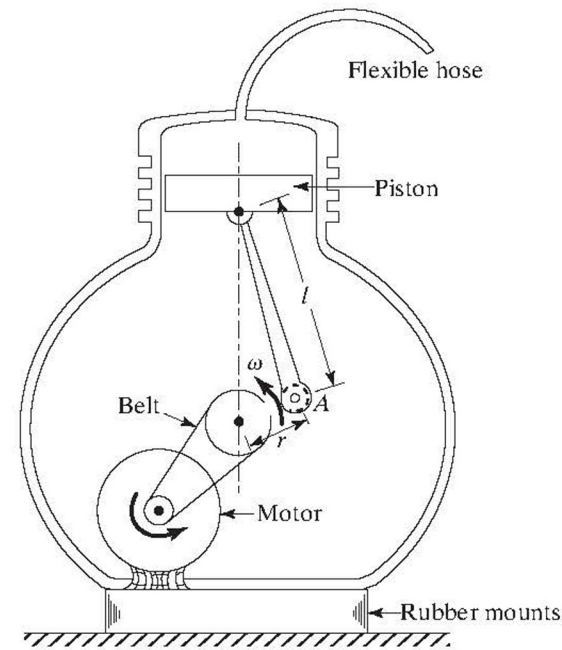

FIGURE 3.61
- 3.63** A single-cylinder air compressor of mass 100 kg is mounted on rubber mounts, as shown in Fig. 3.61. The stiffness and damping constants of the rubber mounts are given by  $10^6$  N/m and 2000 N-s/m, respectively. If the unbalance of the compressor is equivalent to a mass 0.1 kg located at the end of the crank (point A), determine the response of the compressor at a crank speed of 3000 rpm. Assume  $r = 10$  cm and  $l = 40$  cm.